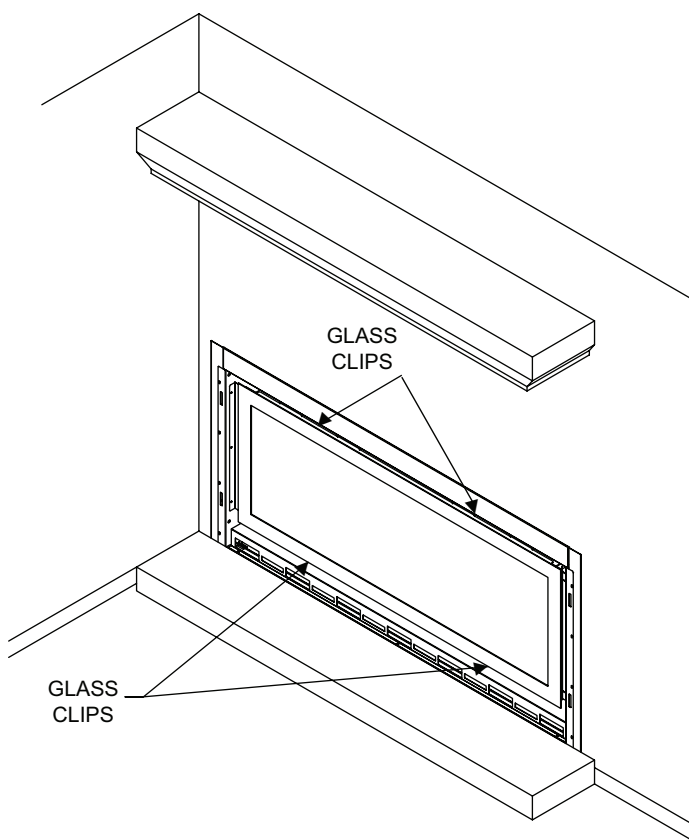

Figure 55
4. To replace, reverse the above steps. See **Figure 55**.